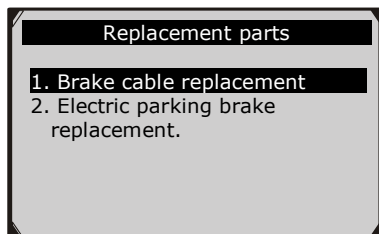

Figure 8.4
- 3) In the **Replacement parts** screen (Figure 8.4), use the **UP/DOWN** button to select **Electric parking brake replacement**. The screen shows as below.